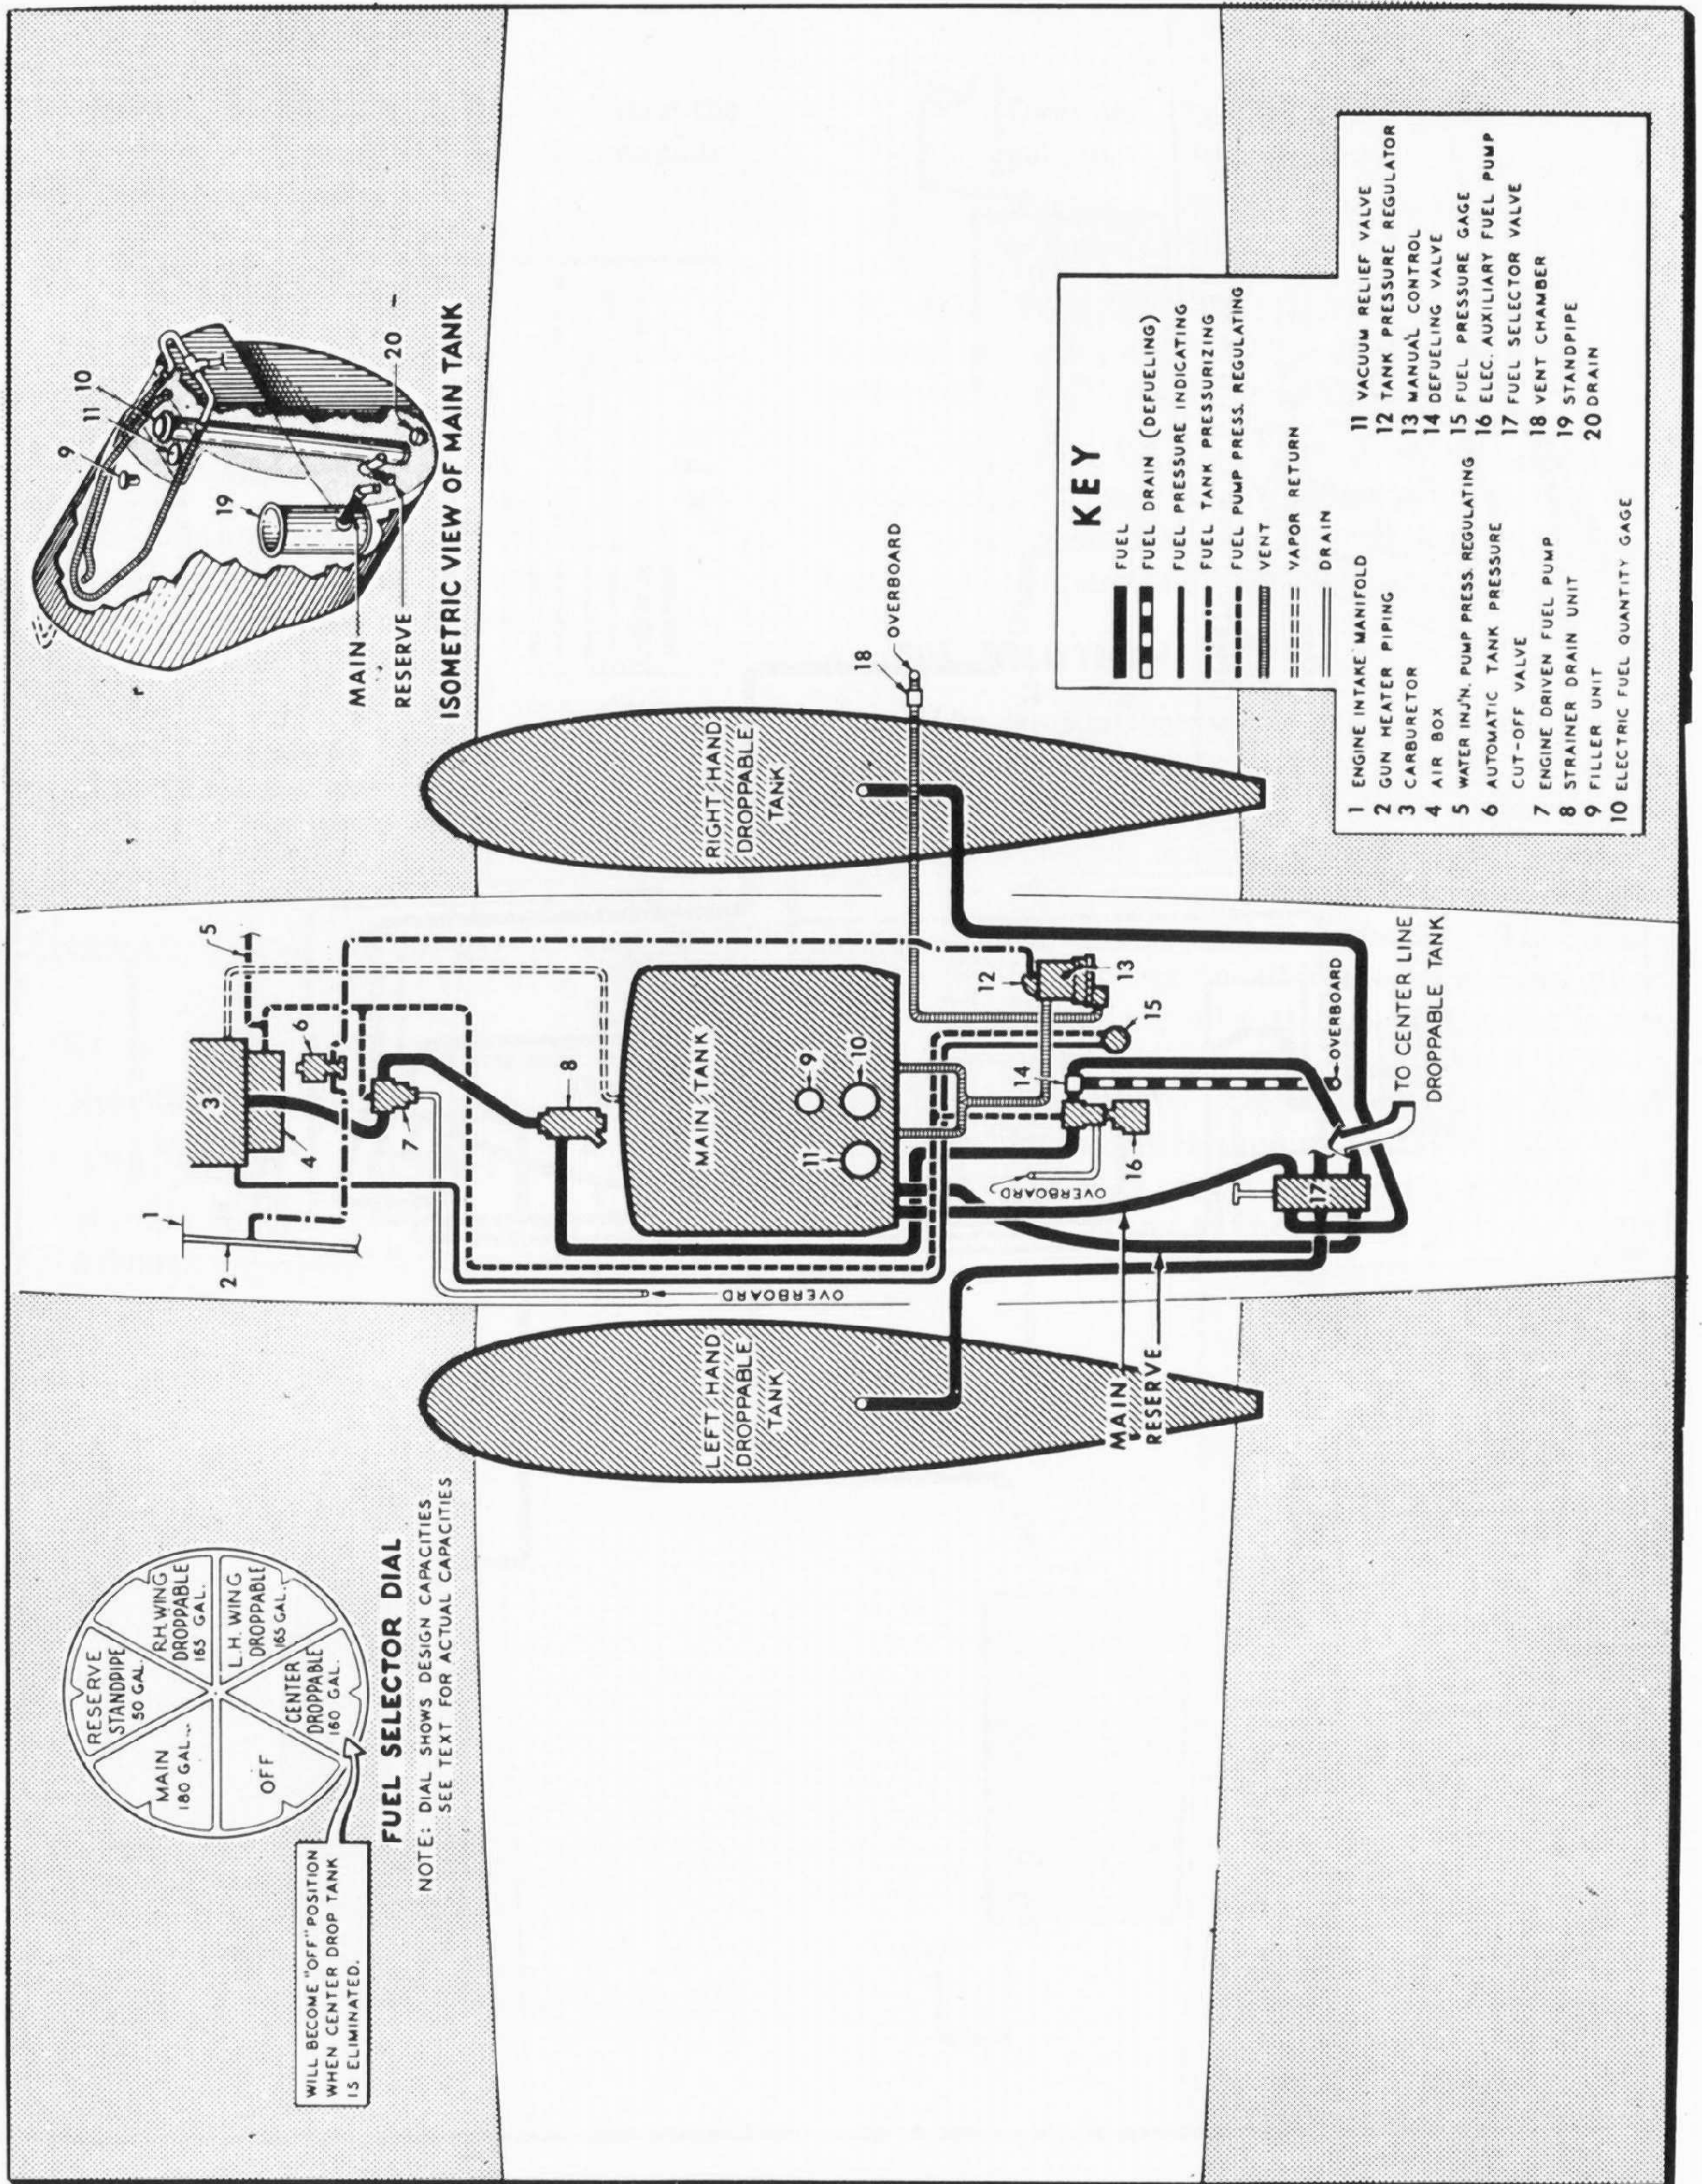

Fig. 11A — Fuel System on Airplanes with Twin Pylon Dropable Tanks
(2) The fuel system for Model F4U-1D, F3A-1D, FG-1D and British airplanes, serial number JT-555 and subsequent, is shown on figure 11A. This system includes provisions for installing two Navy standard-type droppable tanks, each with a capacity of 154 U.S. gallons (129 Imp. gallons) of fuel, on the center section twin pylons. Lockheed-type droppable tanks which have a capacity of 170 U.S. gallons (142 Imp. gallons), may be installed in place of the Navy Standard-type tanks when the latter are not available. The original main tank and the provisions for installing a droppable tank under the fuselage are retained on these airplanes. However, the two wing tanks and their vapor dilution system are eliminated.